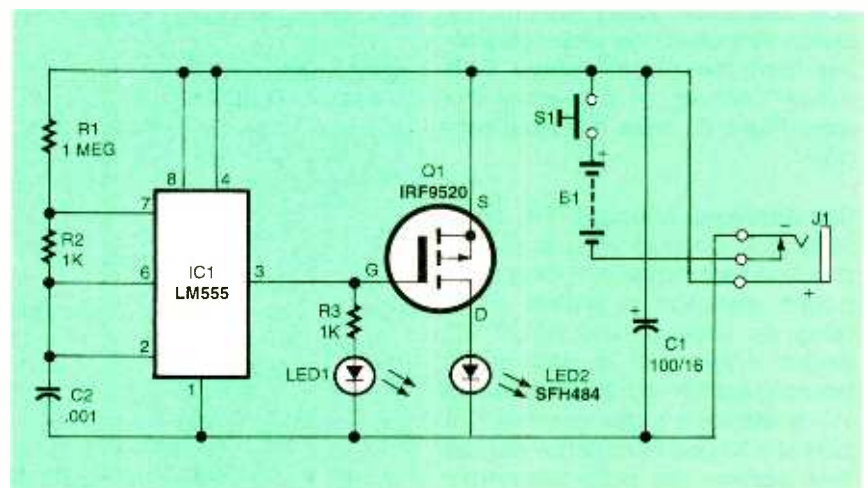

Fig. 1. The Lazer Fazer is simply a 555-type oscillator that puts out an IR signal. It can either be battery powered or plugged into an external 12-volt source.
**Circuit Theory.** The schematic diagram in Fig. 1 shows how simple the JCW actually is. Let's look at the battery polarity sensor first. That part of the circuit consists of D1, D4, D5, D6, R1, R7, LED6, and LED7. If the jumper cables are connected backwards, power flows in through the black clamp. The voltage is blocked by D5, but flows readily through D1. That will light LED6 through current-limiting resistor R1. That LED is the red "wrong way" indicator. The power returns to the red clamp through D6. Since D4 is connected to the battery's negative terminal, LED7 (the green "right way" indicator) does not light. When the cable clamps are connected to the battery the correct way, the roles of all the sensor components flip. Input power is blocked by D6 and conducted by D4 and R7, which lights LED7. Return current now flows through D5.
Fig. 1. The Jumper Control Wizard is actually a very simple circuit. Checking for the correct jumper-cable hookup is done by a few diodes and LEDs. An LM3914 is used as a voltage monitor to show the state of your battery's health.
**Circuit Description.** The circuit for the Lazer Fazer is shown in Fig. 1. It is
Fig. 1. A typical car-engine starting circuit uses a solenoid as a heavy-duty relay to supply 200 amps of current to the starter without that amount of current needing to go through the keyswitch.
**The Starting Circuit.** In addition to knowing the basics of electricity, there is one other little thing you need to repair something—the circuit diagram. Luckily, the circuit diagram of the starting system of a vehicle is simple. However, we will simplify it even further to make it even easier to understand. The simplified schematic of a typical car's starting system is shown in Fig. 1. In some vehicles, there is a separate starting relay between the keyswitch and solenoid that we will not show here.